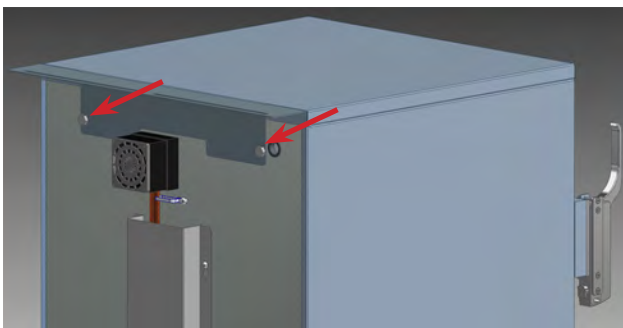

Figure 11
- Hand thread 3/8"-16 x 1 hex head screws (2) through bracket and threaded holes. Tighten screws using a 9/16" wrench or socket (Figure 11).